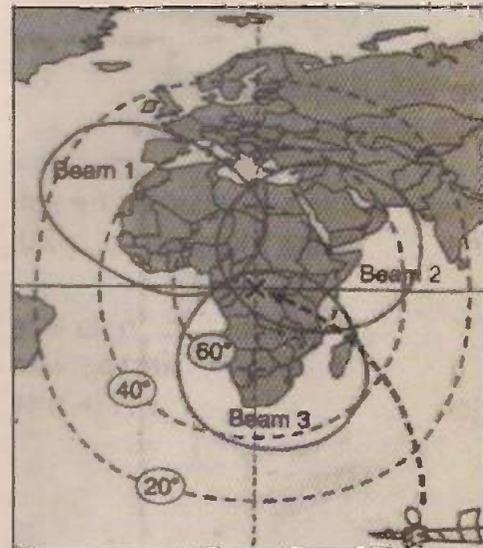

Fig. 1: Afristar footprint map.
In this guide we will follow the tape on its journey around the deck, looking at each mechanical part in turn and the effect it has, when faulty, worn or misaligned, on the tape running and the sound and vision. We'll consider not only fault symptoms that are present whenever the tape is in motion, but also the horrible intermittent faults that can arise. Fig. 1 shows a typical modern centre-mount tape deck layout.
**Fig. 1:** A modern centre-mount VHS tape deck. 1 arm-tension assembly; 2 main brake assembly L; 3 guide-roller assembly S; 4 full erase head; 5 guide-roller assembly T; 6 drum assembly; 7 pinch-comp lever assembly; 8 pinch-cam lever; 9 ACE head assembly; 10 pinch-roller assembly; 11 review lever; 12 brake sub-assembly R; 13 reel-disc assembly R; 14 gear-relay assembly T; 15 idler assembly; 16 gear-relay assembly S; 17 reel-disc assembly L; 18 jog-lever assembly; A back-tension pole; B upper drum; C lower drum; D rabbit; E pinch roller; F capstan; G drum motor.
Afristar has three beams that give total coverage of Africa. Beam 1, the west beam, provides considerable coverage of western Europe as well, including the UK. Beam 2 covers eastern Africa, also the Gulf and as far as the western part of India. Beam 3 covers southern Africa. Use of a high-gain aerial gives reception beyond the specified coverage areas. The published maps show the theoretical predicted coverage with the aerial that's supplied, but in practice the coverage is somewhat wider. Fig. 1 shows the Afristar footprints.